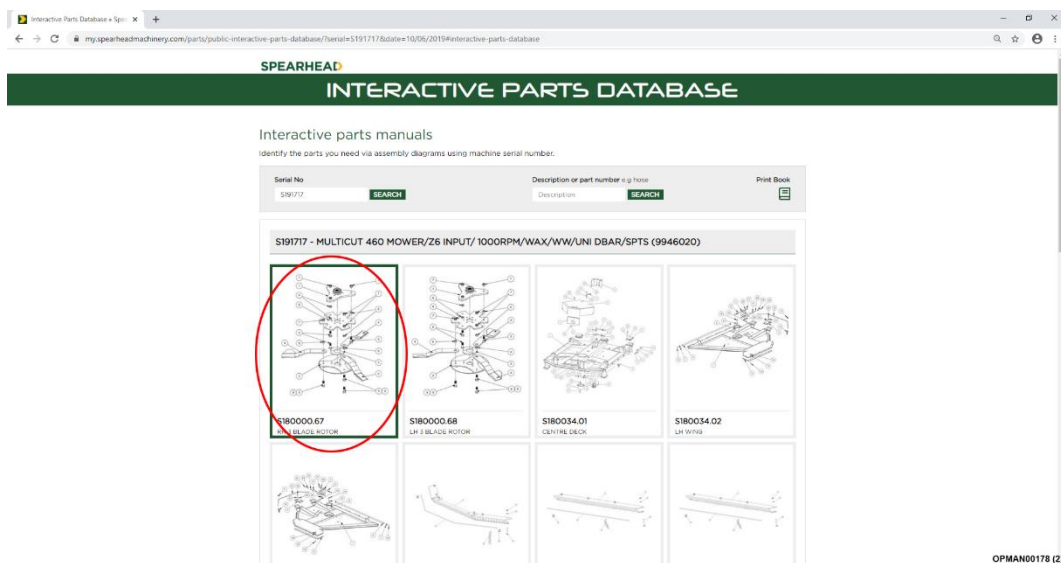

Figure 7.3 – Click On Assembly
7.1.1.3 After clicking on the serial number a full parts breakdown, specific to the machine serial number will appear showing the various parts and assemblies of the machine. Click on the specific assembly picture required; see Figure 7.3.